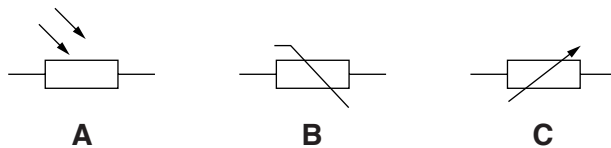

Fig. 3
- 6 Name the electronic symbols shown in Fig. 3.